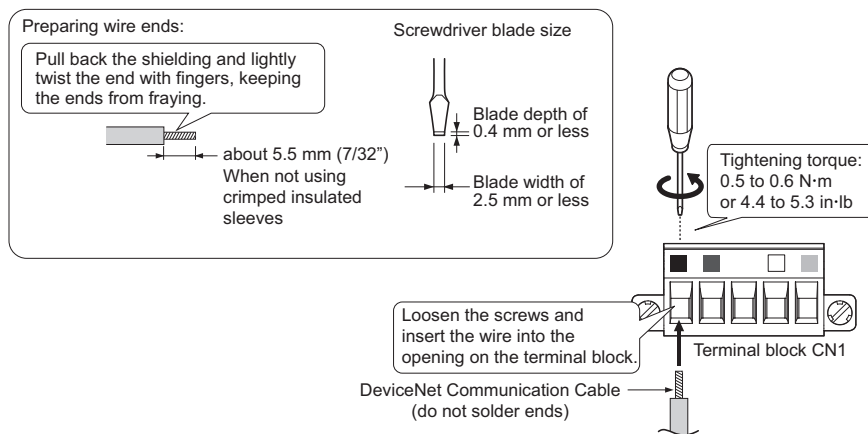

Figure 25 Connect Cable Wiring
2. Connect the communication cables to the terminal block as shown in Figure 25. When attaching the CN1 connector plug on the terminal block to the socket, make sure the screws on the left and right sides of the plug are tightened with a tightening torque of 0.5 to 0.6 (N·m) or 4.4 to 5.43 (in·lb).